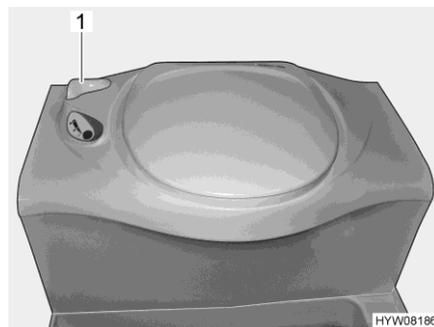

Fig. 295 Thetford toilet
- Before flushing open the sliding trap of the Thetford toilet. To do this, turn the slide lever (Fig. 295,1) in an anticlockwise direction.
- After flushing close the sliding trap. To do this turn the slide lever (Fig. 295,1) in a clockwise direction.